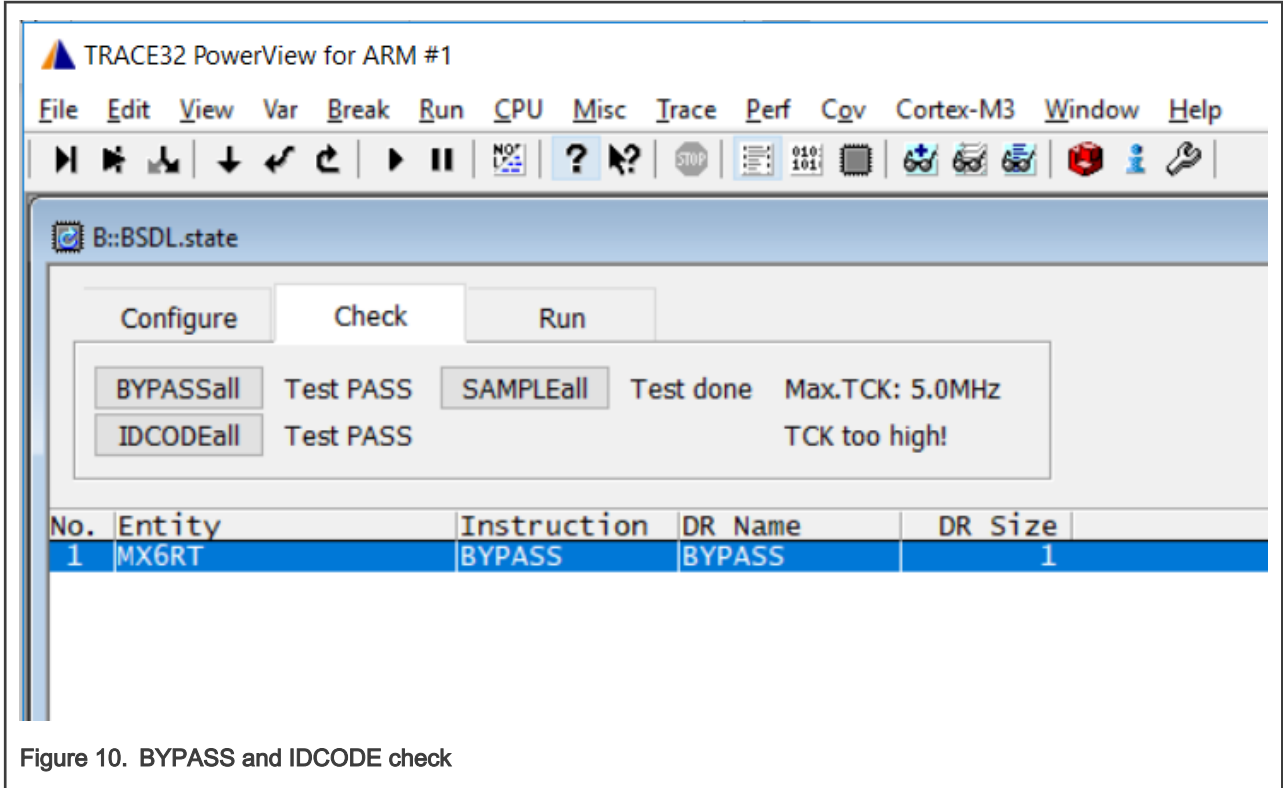

Figure 10. BYPASS and IDCODE check
6. Switch to the **Check** tab of the BSDL.state window. Click **BYPASSall** and **IDCODEall** button to see if both results can pass. The **BYPASS/CLAMP/HIGHZ** check pass, as shown in Figure 10.